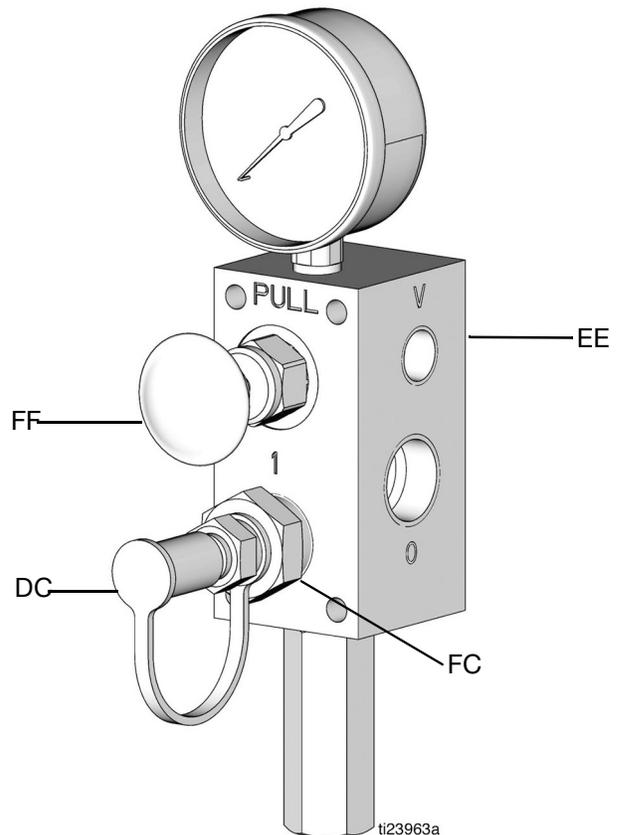

FIG. 19
1. Pull and hold the fill valve pressure relief knob (FF) long enough to relieve line pressure between the fill valve (EE) and the Auto-Fill Shut Off valve (V) (FIG. 19).
3. Remove the dust cover (DC) from the fill coupler (FC) on the fill valve (EE) (FIG. 19).
- The pressure gauge needle rises to the set pressure (FIG. 19).
8. Pull and hold the fill valve pressure relief knob (FF) long enough to relieve line pressure between the fill valve (EE) and the Auto-Fill Shut Off valve (V) and between the remote fill station pump (AA) and the fill valve (EE) (FIG. 19).
9. Disconnect the supply hose (GG) from the fill coupler (FC) (FIG. 19).
10. Replace the dust cover (DC) over fill coupler (FC) (FIG. 19).